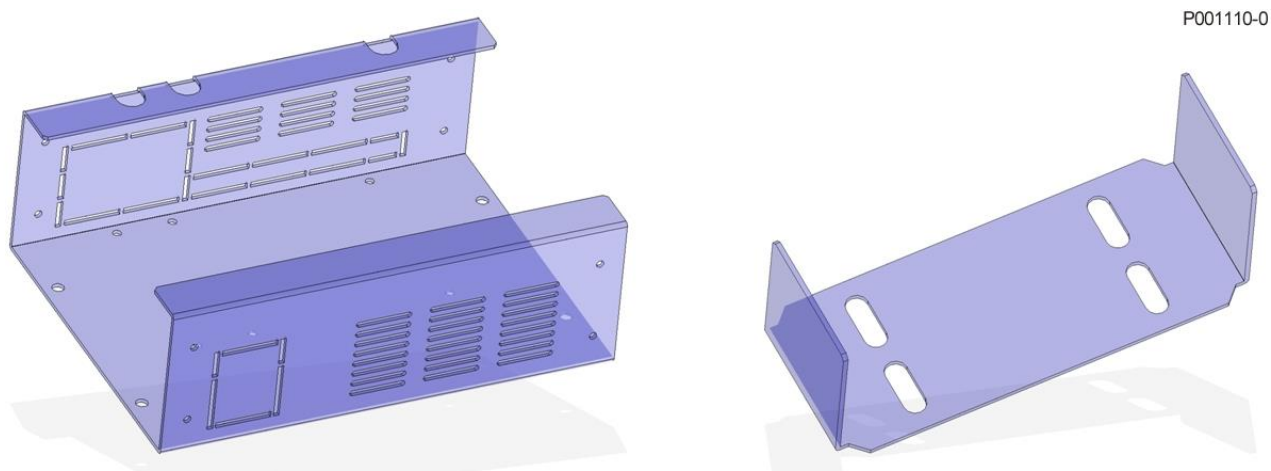

Figure 24: Cable raceway to be installed on the inverter legs (A) and U-bend joining the inverter legs (B)
- Cable raceways to be installed on the inverter legs (see Figure 24);
- U-bend to link the inverter legs (see Figure 24);